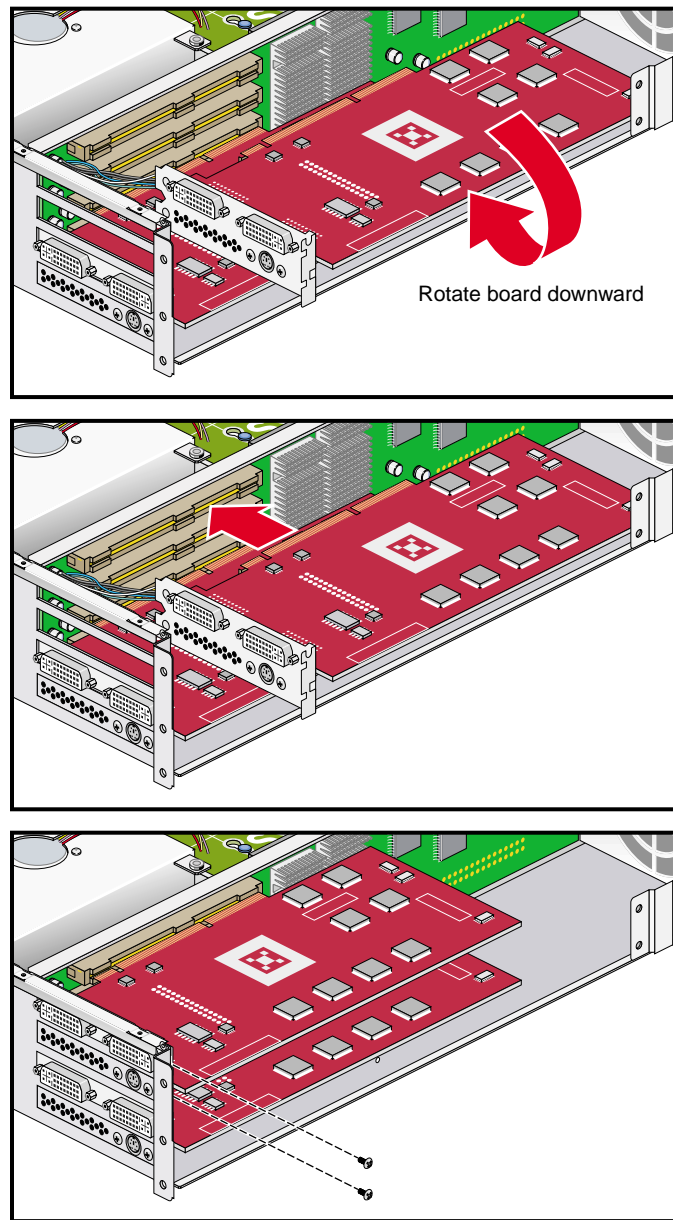

Figure 4-15 Installing the Graphics Card and Retaining Screws
3. Insert the card into the slot the old graphics card was removed from by pushing the card into the connector until it is properly seated and installing the back panel retaining screws, as shown in Figure 4-15.